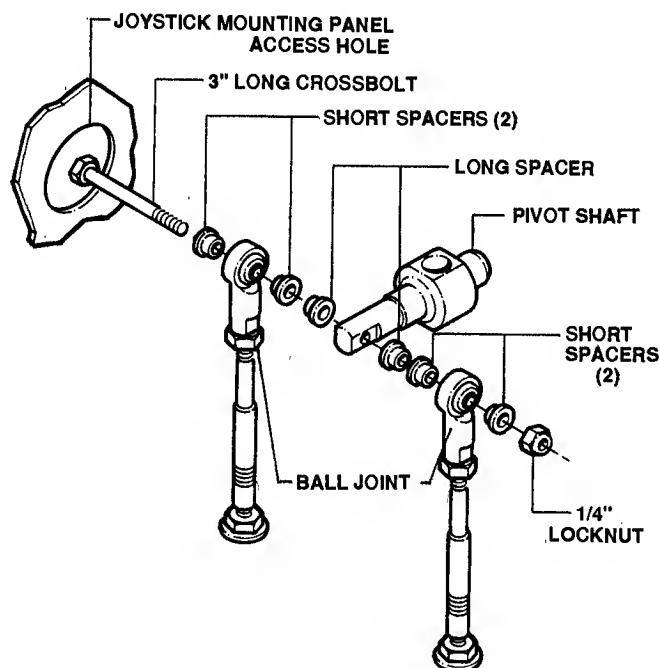

FIGURE 4.7
- B. Remove lock nut, cross bolt and spacers. See Figure 4.7.